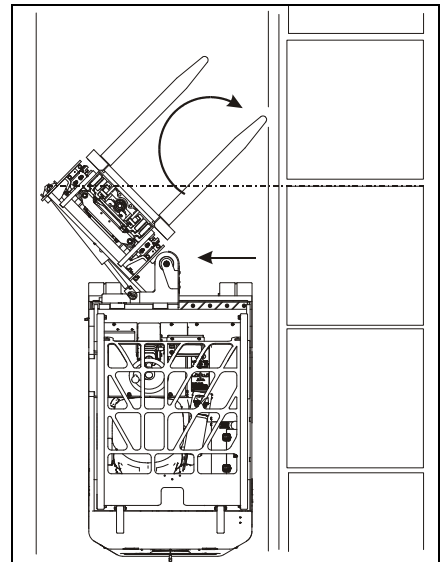

Figure 4-11: Align the Forks
- Carefully rotate the mast approximately 45° to the right moving the truck forward and shifting the mast to the left as needed to align the right fork (the one closest to the driver) to the opening in the pallet. The right fork must just clear the opening and the rack column. See Figure 4-11.